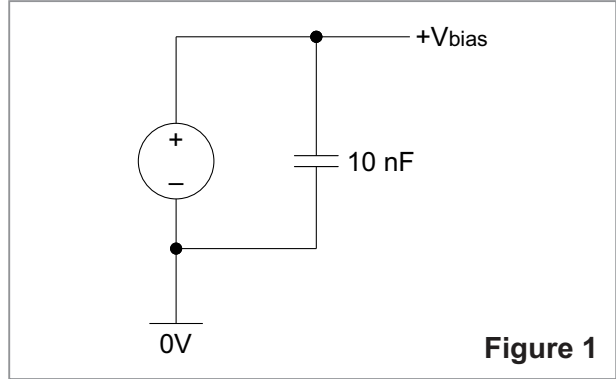

Figure 1
1) Stable programmable current source, capable of providing ripple-free bias up to +30 V and limited to 0.5 mA or three 9 V batteries. Apply this bias to the cathode of the MacroPixel. Additional filter can be used to minimize the noise coming from the power supply and connection lines (Figure 1).